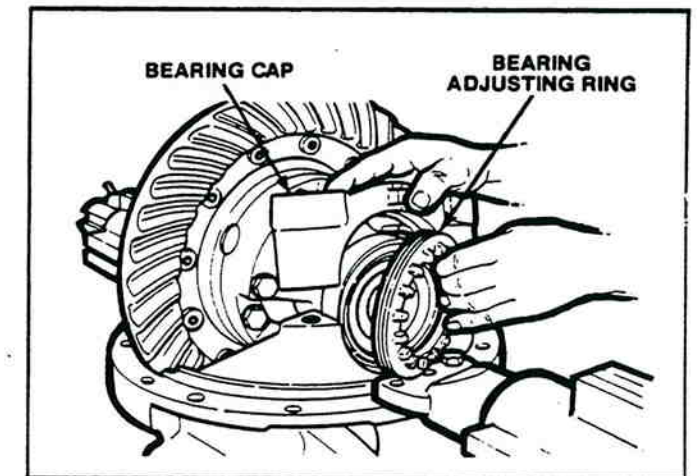

Figure 2-15. Removing Bearing Cap And Adjusting Ring.
7. Remove the bearing caps and bearing adjusting rings from the carrier (Figure 2-15).